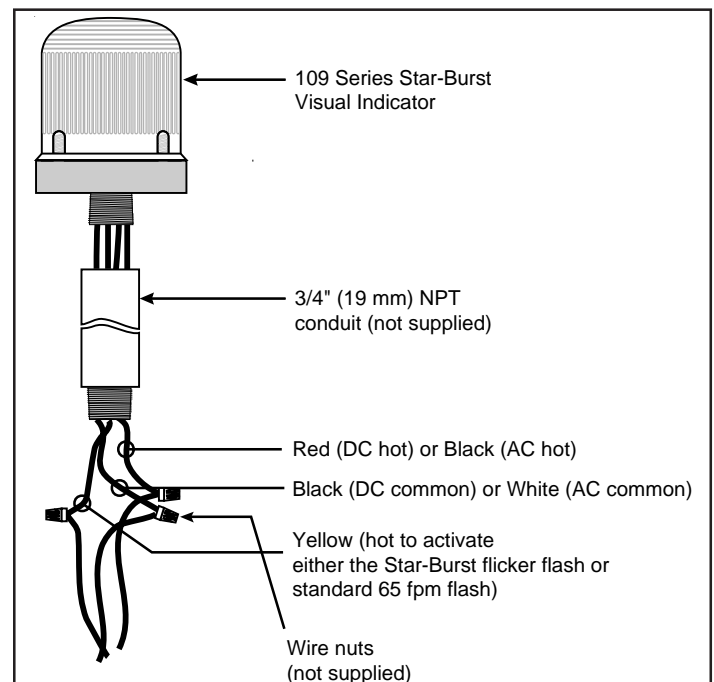

Figure 1. Conduit Mounting (3/4" Shown)
Conduit Mounting (Figure 1)
2. Using wire nuts (not supplied), connect the signal's wire leads as shown in Figure 1. Polarity must be observed on DC models.
3. Using wire nuts (not supplied), connect the signal's wire leads as shown in Figure 1 or 2. Polarity must be observed on DC models.
1. **Conduit Mounted Modules:** Disconnect wiring and, if necessary, unscrew base from conduit (Figure 1).